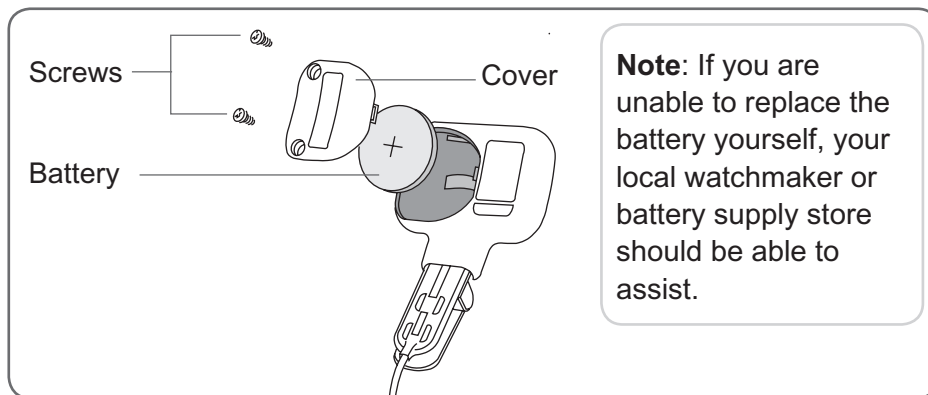

Figure 48: Replacing the Gait Sensor battery.
1. Unscrew the two screws from the battery cover. See Figure 48. Slide the cover out.